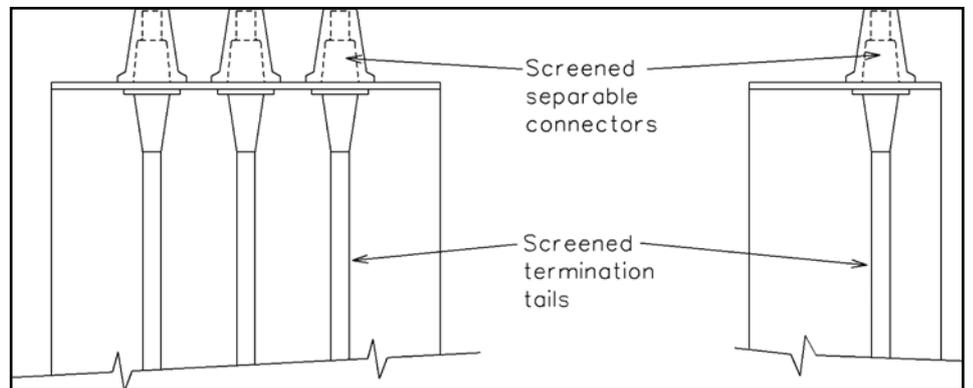

Figure 8: Screened separable connector termination – inside cone (type 5)
- Type 5 termination - screened separable connector terminations – inside cone, figure 8.